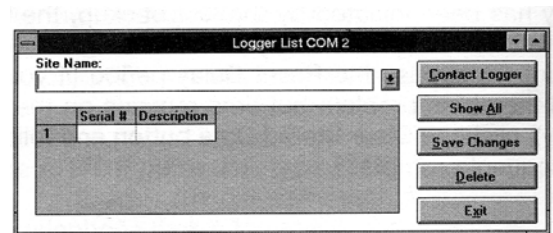

FIGURE 3
2. Choose the COM port that the loggers are connected to. the Logger List dialog box will appear. Site name and logger serial numbers will be entered in this dialog box. See figure 3 below.